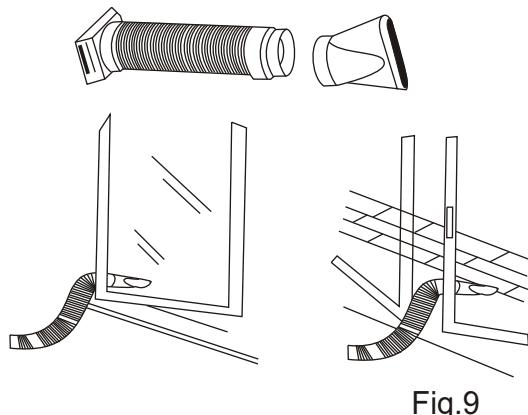

Fig.9
1. Attach one end of the duct to the exhaust air outlet of the mobile air condition, push it downwards, be sure to fix thoroughly. (See Fig.9)
1. Attach one end of the duct to the exhaust air outlet of the mobile air conditioner. According to the arrow direction, push it downwards, be sure to fix thoroughly. (See Fig.9)